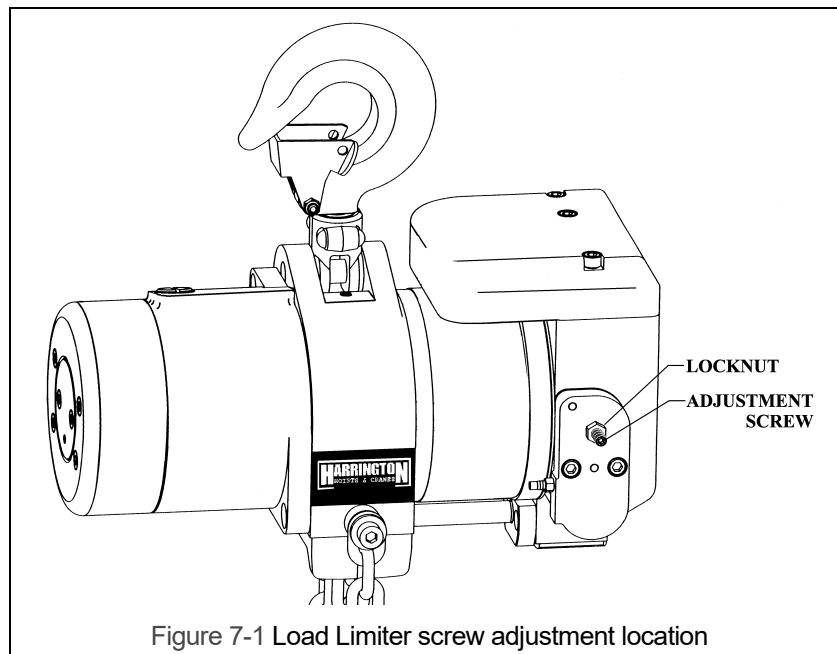

Figure 7-1 Load Limiter screw adjustment location
- For the adjustment procedure: OUT means the counter-clockwise (CCW) direction, and IN means the clockwise (CW) direction.
- 2) Refer to Figure 7-1. Loosen the lock nut and slowly turn the adjustment screw OUT until it is loose and no longer is in contact with the internal load limiter spring – as this occurs the screw should become easier to turn. Stop turning the screw once it is loose and easier to turn.